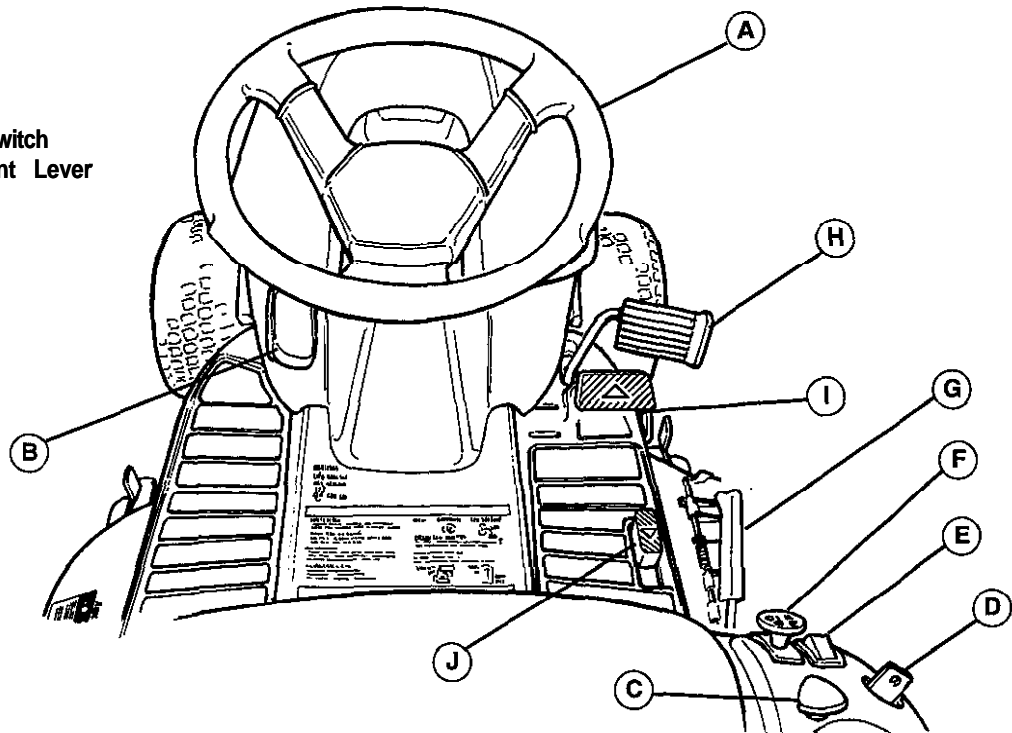

Figure 1. Tractor & Mower Controls - Hydro Model
*NOTE: Once the engine has stopped, the PTO Switch (F, Figures 1 & 2) must be turned off after operator returns to the seat in order to start the engine.*
Parking brake can be applied by fully depressing the brake pedal (H, Figures 1 & 2), then pulling up on the parking brake knob (C, Figures 1 & 2).
2. Set the throttle (B, Figures 1 & 2) all the way up to CHOKE. A warm engine may not require choking.
3. Disengage the PTO by pushing the switch all the way down (F, Figures 1 & 2)
4. **On hydro models**, with your foot off the pedals (I & J, Figure 1) the tractor is in the neutral position.
5. Insert the key into the ignition switch (D, Figure 1 & 2) and turn it to START.
6. Move the throttle (B, Figures 1 & 2) to SLOW. Warm up the engine by running it for at least a minute before engaging the PTO switch or driving the tractor
**On hydro model**, ground speed is infinitely variable according to how far the pedals (I & J, Figure 1) are moved in the forward or reverse position.
2. Set the throttle (B, Figures 1 & 2) for desired speed. Full speed is recommended for mowing.
3. Engage the mower PTO by pulling up on the switch (F, Figures 1 & 2).
4. On **hydro model**, release the parking brake by depressing the brake pedal (H, Figure 1), then press down on either pedal (I or J, Figure 1) for the desired direction and speed of travel.
1. On **hydro model**, gradually take your foot off the pedals (I & J, Figure 1) to make a smooth stop. To make a more rapid stop, depress the brake pedal (H, Figure 1).
2. Engage the parking brake by pulling up on the knob (C, Figure 1 & 2) with the brake pedal fully depressed.
3. Disengage the PTO by pushing down on the switch (F, Figures 1 & 2).
1. With engine off and key removed, disengage the PTO by pushing the switch (F, Figures 1 & 2) all the way down.